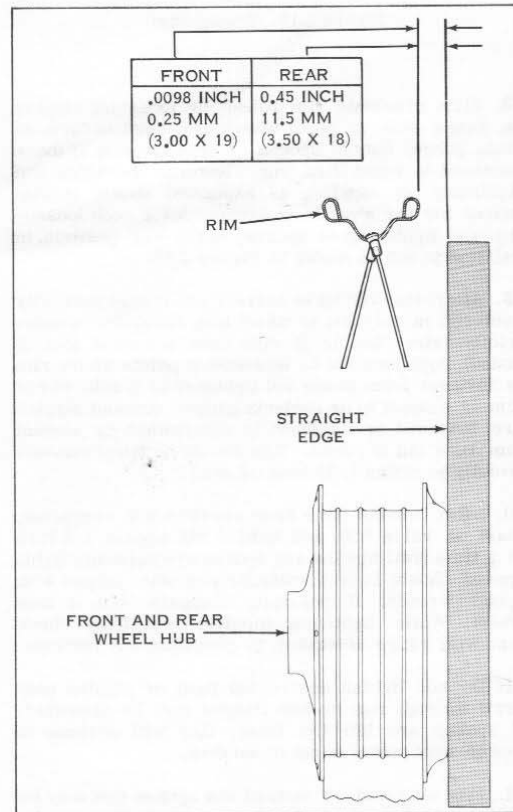

Figure 2.15. Aligning Wheel With Straightedge
6. Figure 2.15 shows method of using a straightedge to determine correct sideways centering of wheel rim. If rim is too close to straightedge, loosen all nipples on brake side slightly and tighten all nipples on opposite side slightly. If rim is too far from straightedge, reverse above operation. Lay straightedge across brake side spoke flange to hub and measure distance from straightedge to rim. When rim is correctly centered, this measurement should be as shown for front and rear wheels.
8. First eliminate rim runout by loosening nipples on gauge side at point where rim bead is farthest from gauge; tighten spokes on opposite side of those loosened to bring rim true. Reverse loosening and tightening of nipples, as explained above, if rim moves too far away from gauge. After each loosening and tightening of spokes, check rim position in relation to hub as shown in Figure 2.15.